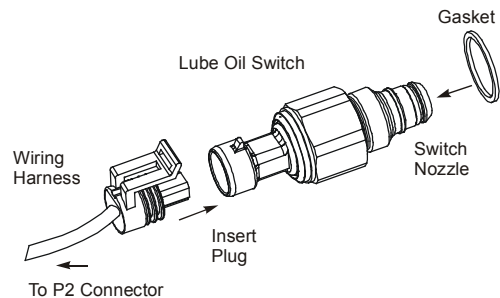

Figure 6: Connecting the Wiring Harness to the P400 Switch
2. Fit the gasket over the nozzle as shown in Figure 6.
1. Insert the plug into the connector until it snaps and locks in place. See Figure 6.